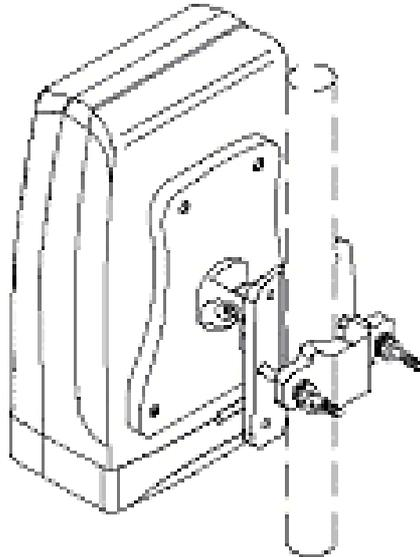

Figure 12-9: IDR secured to a pole
3. Slide the clamp-holder into position and secure using washers, spring-washers and nuts as illustrated in Figure 12-9. Finger-tighten the fasteners.